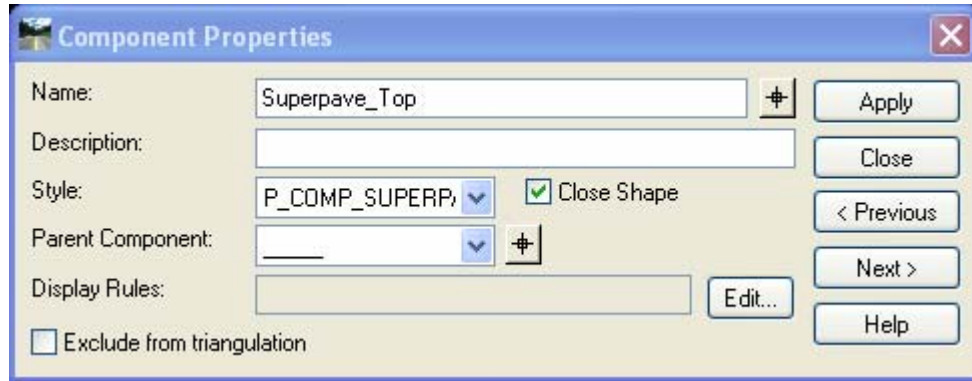

Figure 6-18 InRoads Component Properties Dialog Box Renaming Components
K. Double click on each pavement component and edit the name. Eliminate any previous left or right designation as shown Figure 6-18. Leave the Curbing components as is.